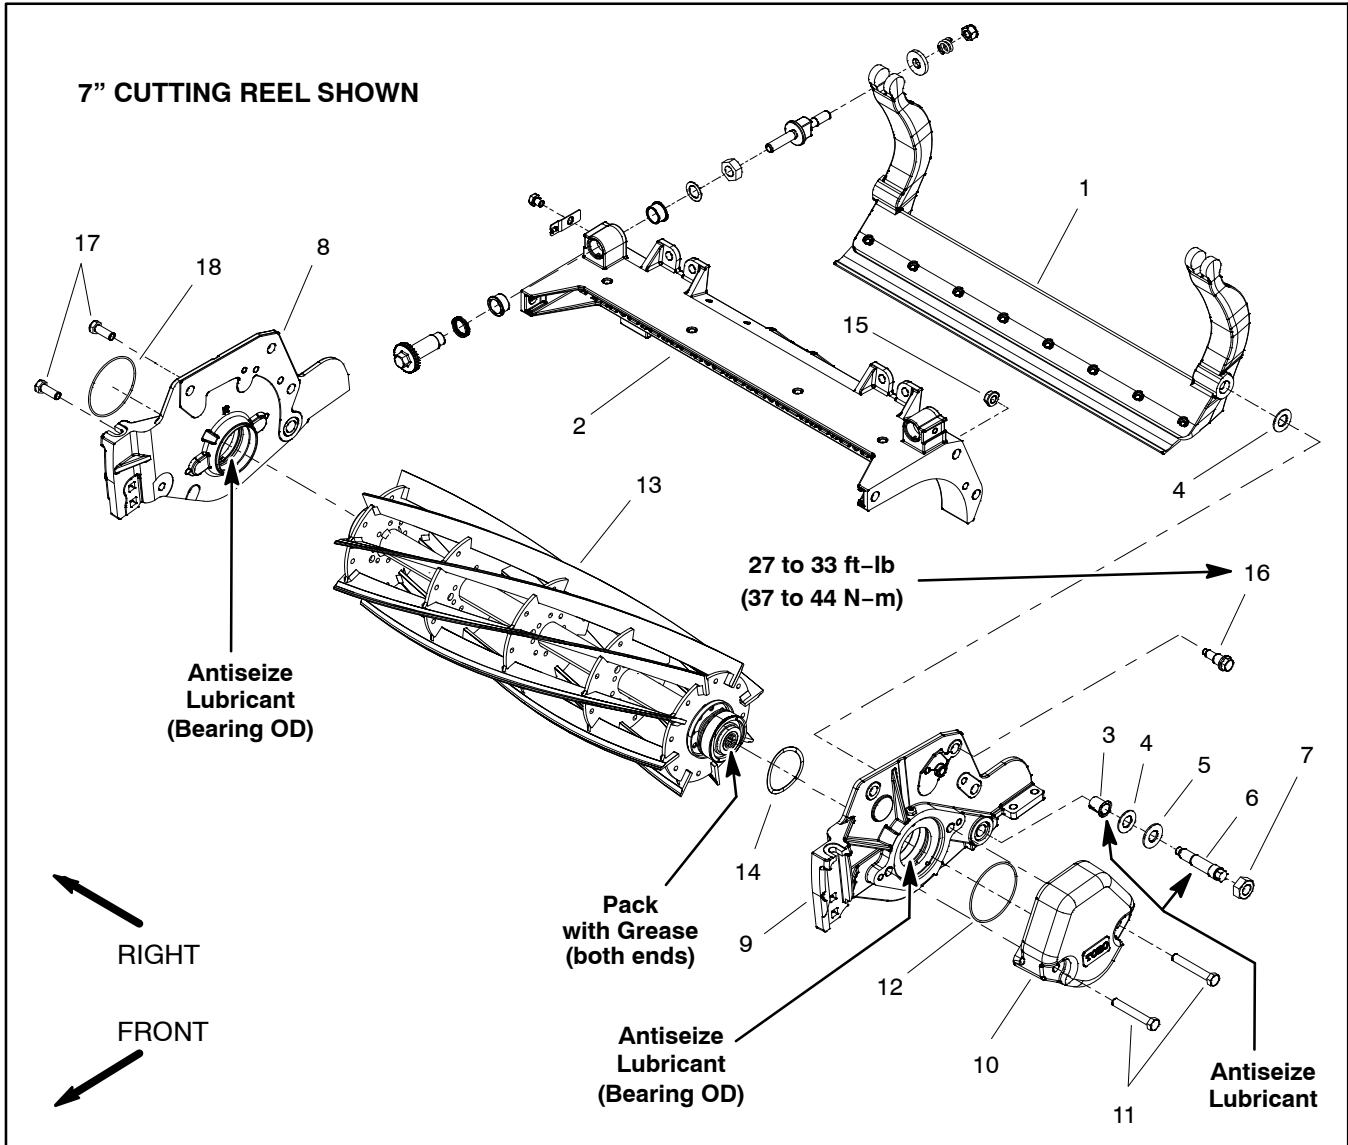

Figure 36
5. Make sure that flat wire spring (item 14 in Fig. 36) is installed into LH side plate.